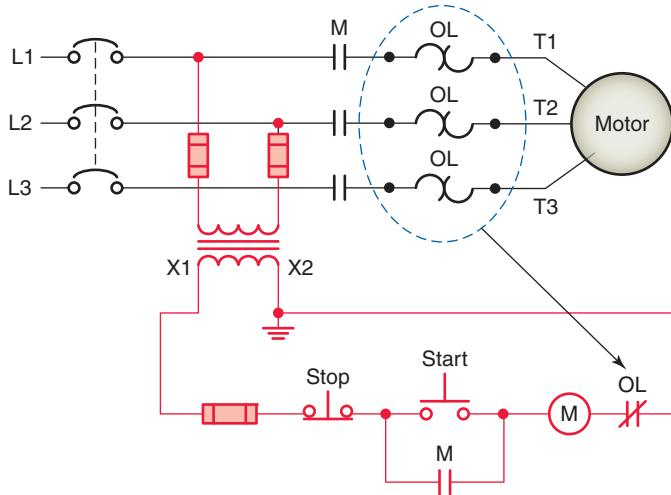

Figure 6-41 Thermal overload relay circuit operation.
With a thermal overload relay, the same current that goes to the motor coils (causing the motor to heat) also passes through the thermal elements of the overload relays. The thermal element is connected mechanically to an NC overload (OL) contact (Figure 6-41). When an excessive current flows through the thermal element for a long enough time period, the contact is tripped open. This contact is connected in series with the control coil of the starter. When the contact opens, the starter coil is deenergized. In turn, the starter's main power contacts open to disconnect the motor from the line.